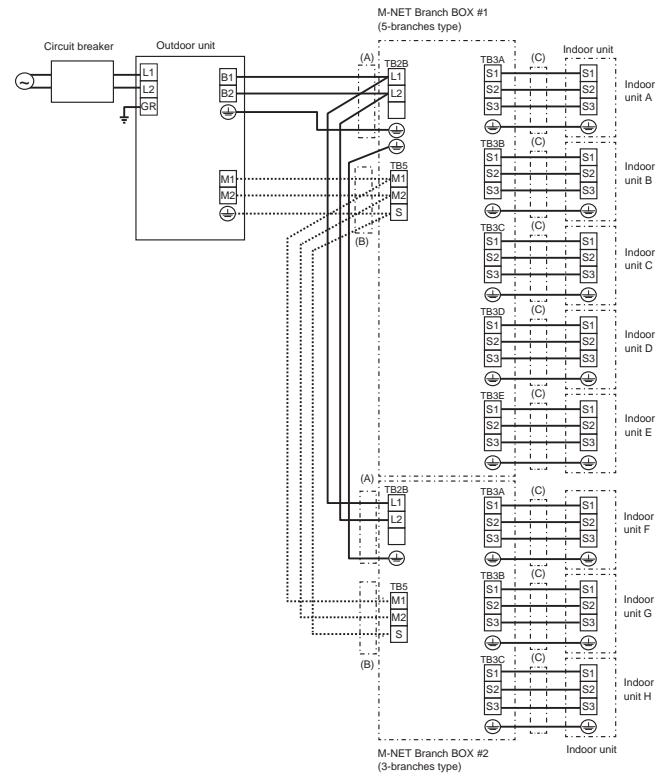

Fig. 8-9
- Firmly connect each wire to the appropriate terminal block. (Fig. 8-9)
### 8.4. External wiring procedure (Fig. 8-9)